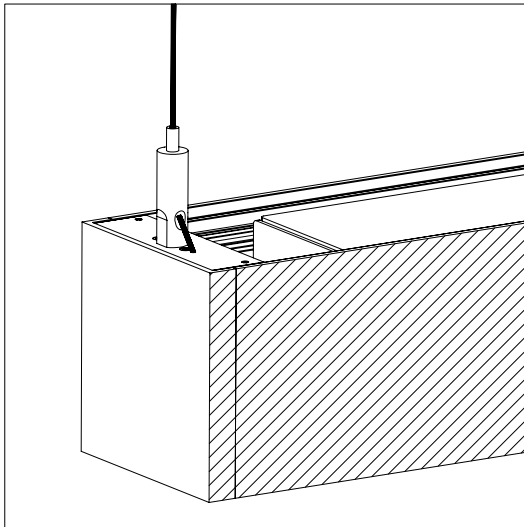

fig. 11
1. While supporting the fixture, thread the aircraft cables into the cable grippers. The cable grippers will lock automatically to secure the aircraft cables (see fig. 11).